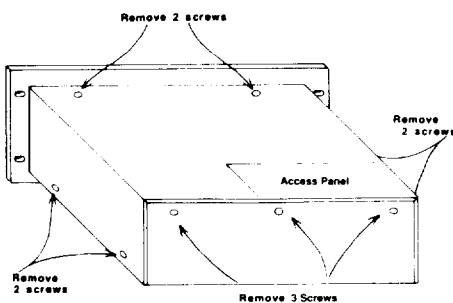

Figure 1. Top Cover Removal
1. Remove the nine screws, securing the top cover. There are two screws on each side, two screws on the top near the rear edge of the front panel, and three screws at the top edge of the rear panel. Refer to Figure 1 for details.
1. Remove the two screws securing the access panel to the top cover. Refer to Figure 1 for details.